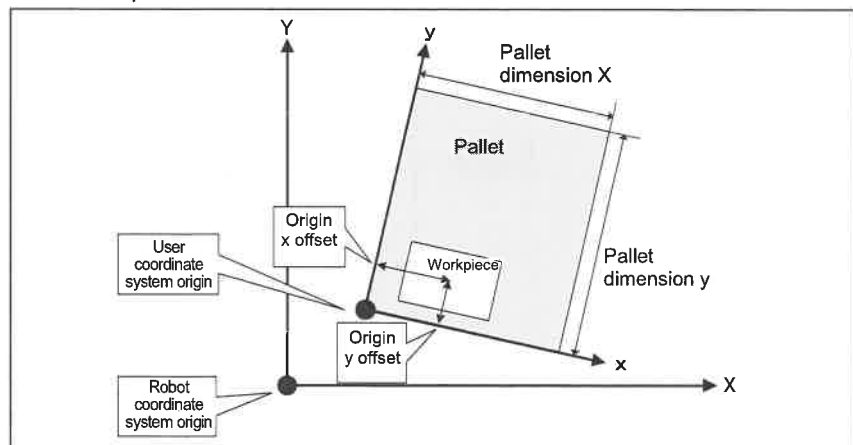

Fig. 4.5.1 Pallet dimensions ("Scale") and origin point offset
**5** Align the cursor with "Origin offset," and specify how far away the loading (unloading) point of the first workpiece is to be distanced from the user coordinate origin. (Refer to Fig. 4.5.1.)